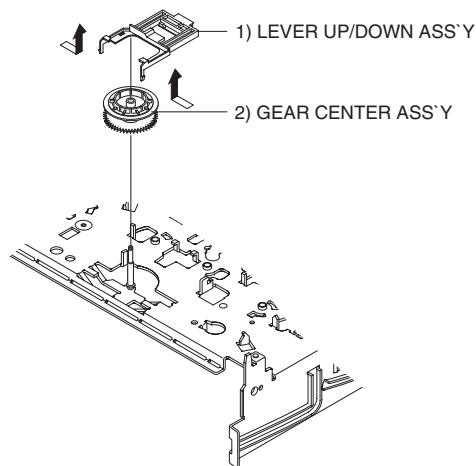

Fig. 4-4-19 Lever Up/Down Ass'y Removal
- 1) Release the 2 hooks in the direction of the arrows as shown Fig. 4-4-19 and lift the Lever Up/Down Ass'y.